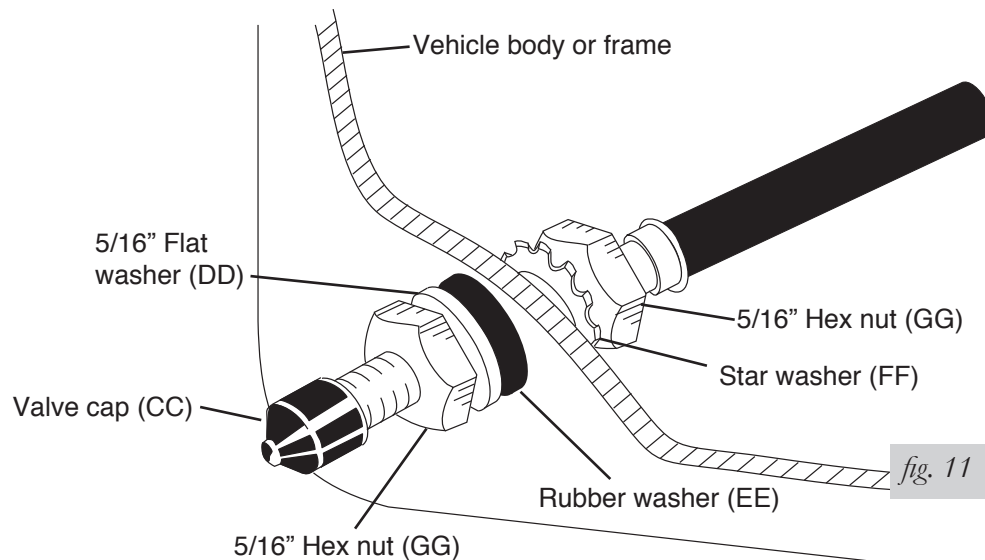

fig. 11
4. Place a 5/16" nut and star washer on the air valve. Leave enough of the inflation valve in front of the nut to extend through the hole and have room for the rubber washer, flat washer, and 5/16" nut and cap. There should be enough valve exposed after installation—approximately 1/2"— to easily apply a pressure gauge or an air chuck (fig. 11).
5. Push the inflation valve through the hole and use the rubber washer, flat washer, and another 5/16" nut to secure it in place. Tighten the nuts to secure the assembly (fig. 11).